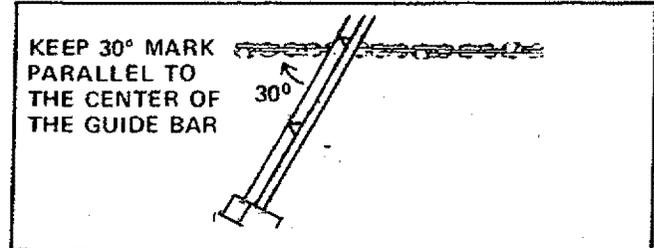

Figure 39
- b.) Hold the file holder level with the 30° guide mark parallel to the center of the chain. Figure 39.